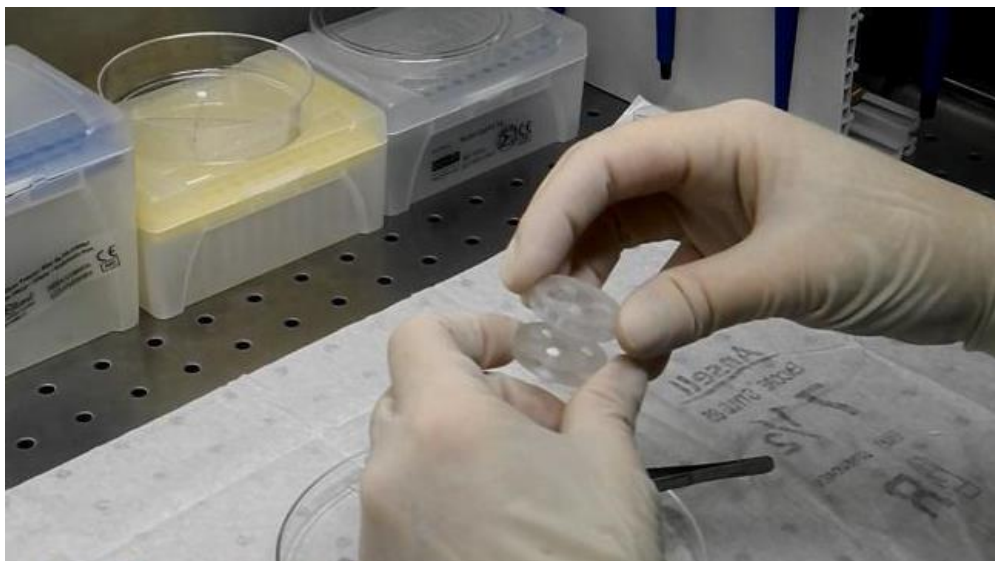

Figure 4
- Assemble the second half of the scaffold holder to close the holder by fitting the holder peg as shown in Figure 4.